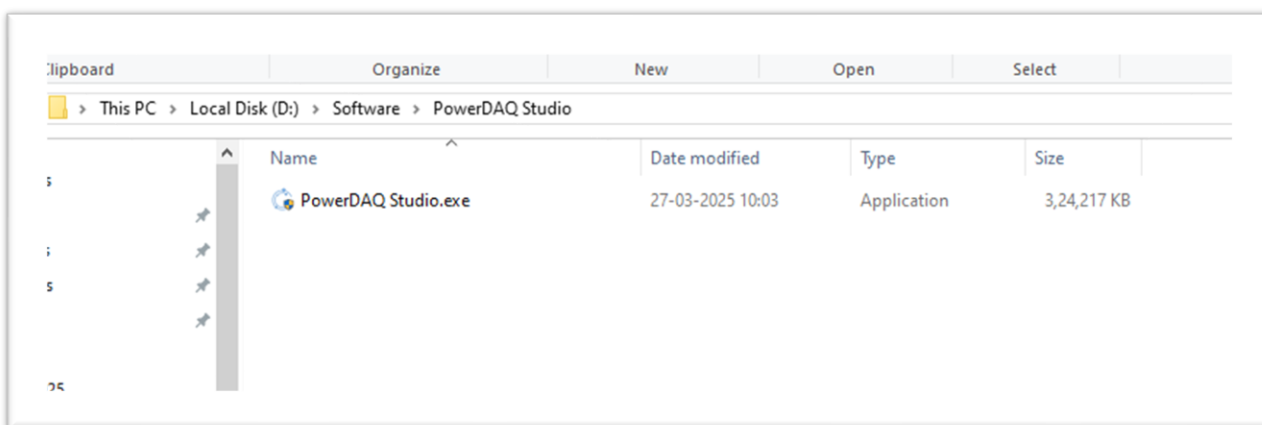

Figure 1. PowerDAQ Studio Setup Executable
2. Run the PowerDAQ Studio Setup Wizard, “PowerDAQ Studio”.exe” (Figure 1). Administrator rights are required.